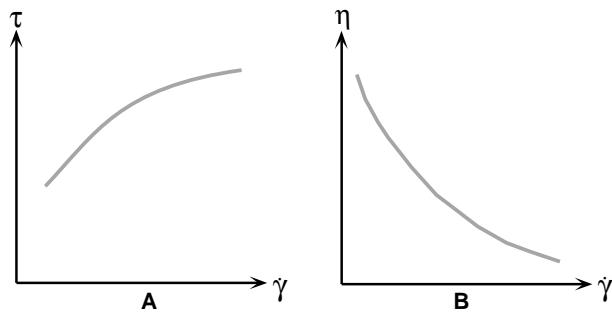

Figure 4-3
**PSEUDOPLASTIC:** This type of fluid will display a decreasing viscosity with an increasing shear rate, as shown in Figure 4-3.